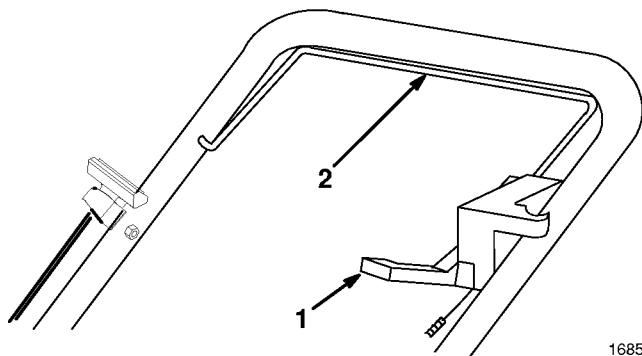

Figure 8
2. SELF-PROPELLED MODELS ONLY—Move traction control lever forward (toward engine) (Fig. 8).
1. Move traction control lever forward (toward engine) and squeeze control bar until it contacts handle (Fig. 8).